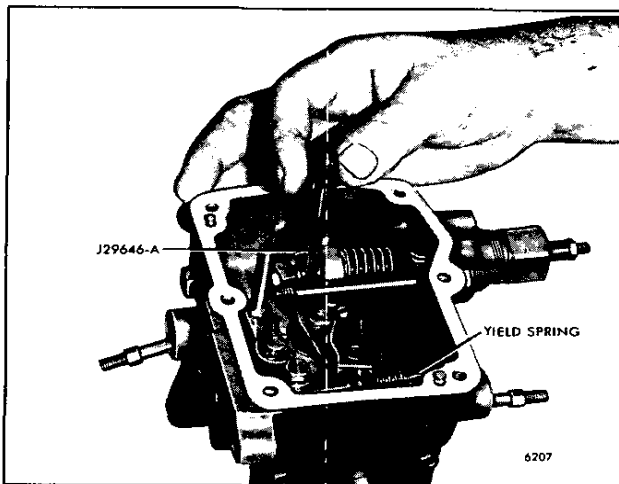

Fig. 4 - Adjusting Governor Gap
2. With the engine stopped and the governor cover removed, place tool J 29646-A between the low-speed spring cap and the high-speed spring plunger. Set the idle gap to 5.5 mm (0.216"), using the gap adjusting screw (Fig. 4).